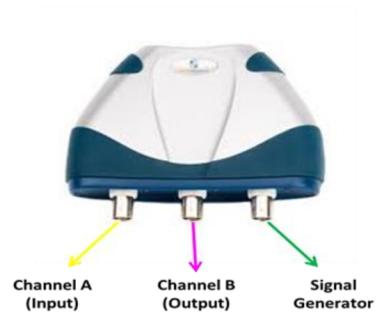

Figure 1.8: PC Scope.
First PC scope probe is taken. BNC connector of this oscilloscope is connected to the input of the oscilloscope shown in Fig. 1.8. Connect the retractable hook tip of the oscilloscope probe (inputprobe) to the open end of the resistor. The crocodile clip of this input PC scope probe is connected to the ground of the bread board.
Second oscilloscope probe is taken. BNC connector of this oscilloscope is connected to the output of the scope shown in Fig. 1.8. Connect the retractable hook tip of the scope probe (output probe) to common junction of resistor and capacitor. The crocodile clip of this input oscilloscope probe is connected to the ground of the bread board.
Third oscilloscope probe is taken. BNC connector of this oscilloscope is connected to the signal generator of the oscilloscope shown in Fig. 1.8. Connect the retractable hook tip of the oscilloscope probe (input probe) to the open end of the resistor. The crocodile clip of this input oscilloscope probe is connected to the ground of the bread board.
- Make the circuit as shown in the Fig. 1.8 on the bread board.
- Select the value of R_G based on desired gain. The relation between R_G and gain/Amplification (G) is given in Table. 1.1